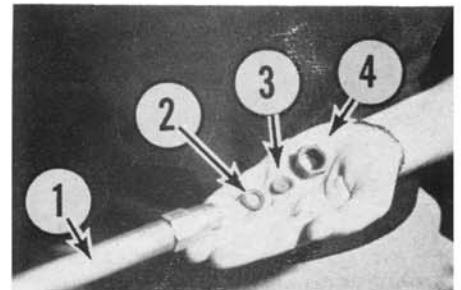

Figure 8
**USING THE SPRAY GUN.** The large Handle on the Gun controls the shape of the spray pattern, either a cone-shaped or a jet-shaped spray. Adjust to suit your job requirement. See Figure 8 for parts of the Gun: 1 Gun; 2 Rubber Washer; 3 Disc; 4 Nozzle Cap.